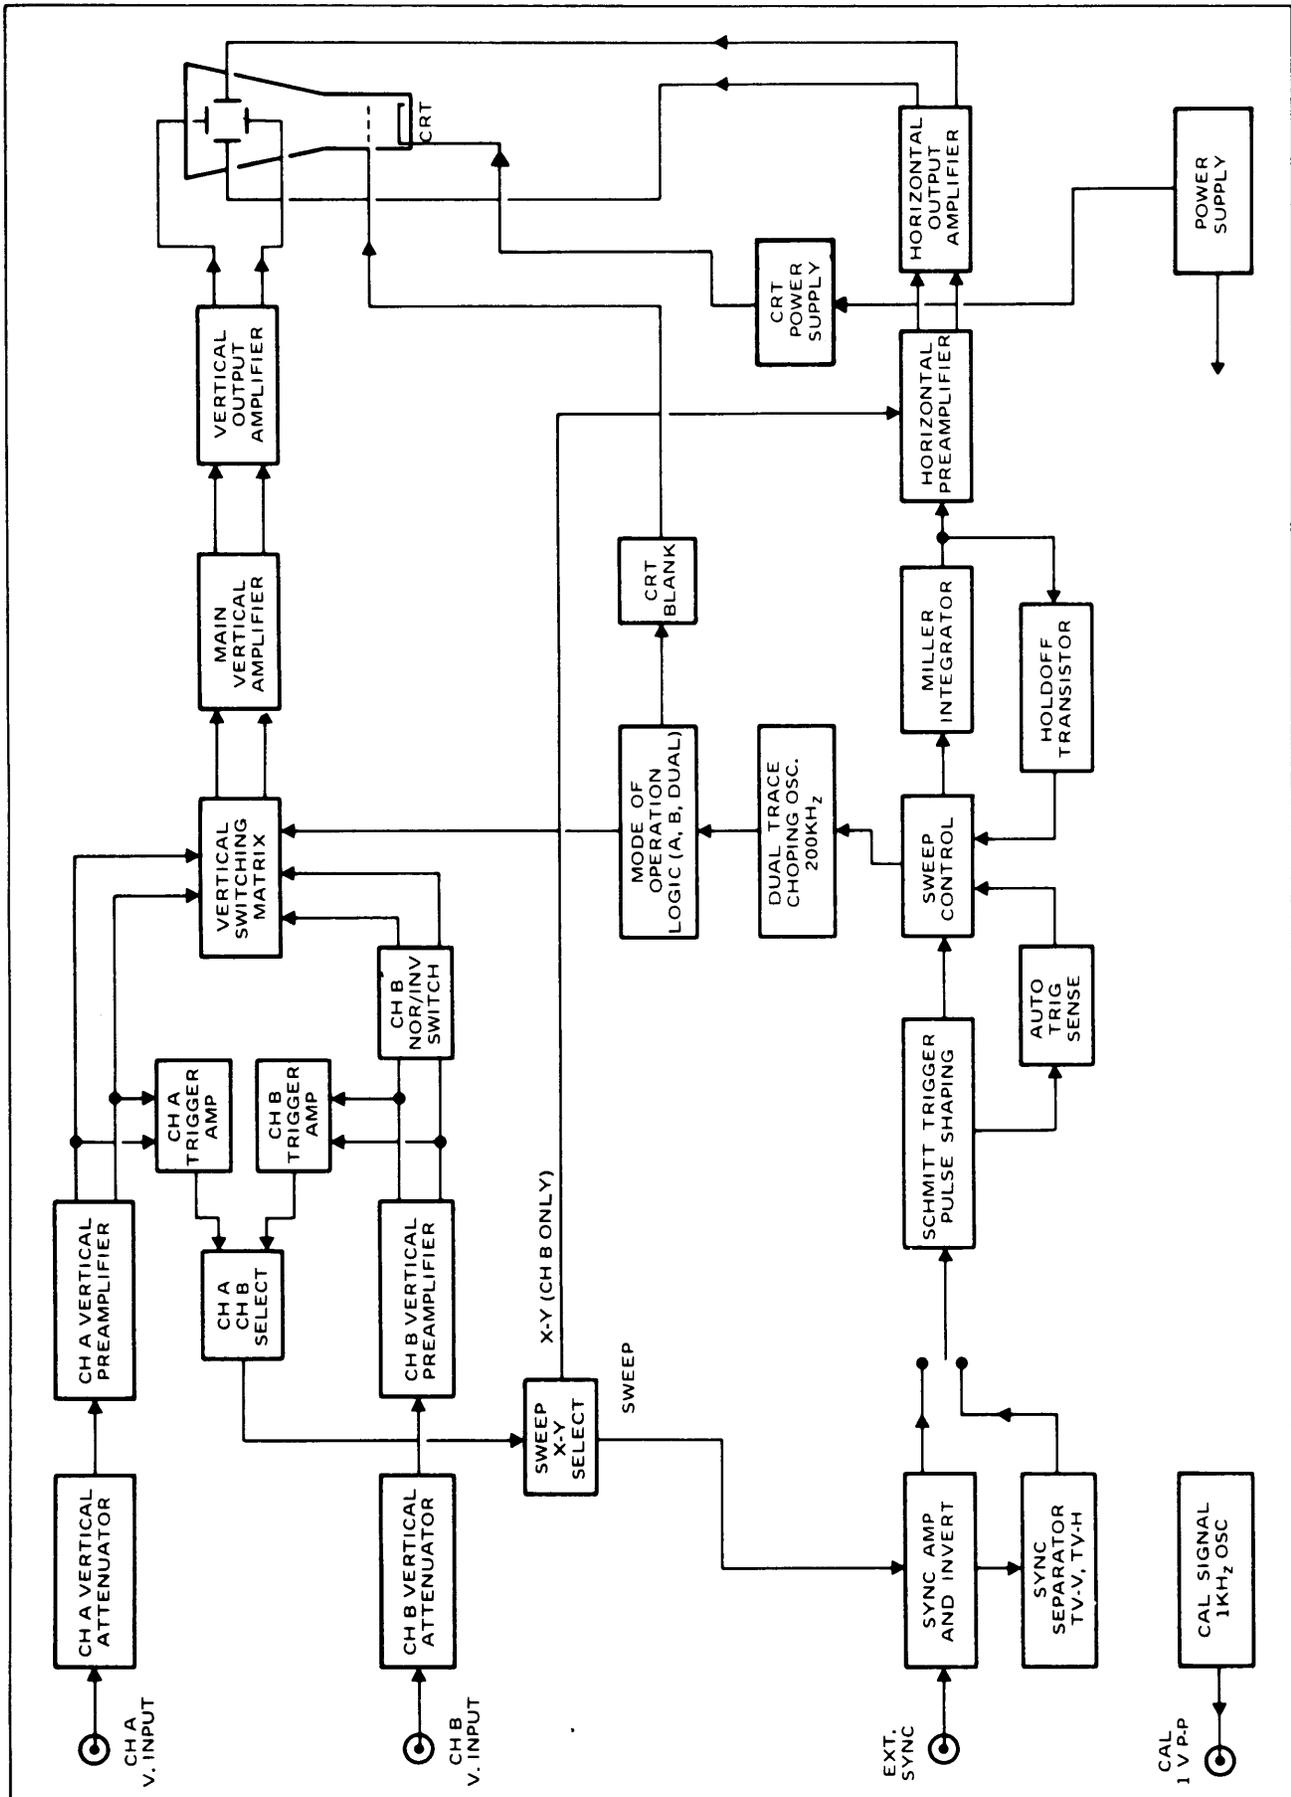

Fig. 3. Block diagram, Model 1472 Dual-Trace Oscilloscope.
33. Probe (see Fig. 3). The B & K-Precision Model PR-35 combination 10:1/Direct probe has been designed for use with this oscilloscope. However, any probe designed for use with an oscilloscope having a nominal input impedance of 1 megohm shunted by 27 pF and capable of operation up to 15 MHz, can be used.
The block diagram, Fig. 3, outlines the circuit breakdown of the oscilloscope. Circuit details are obtained by reference to the schematic diagram.